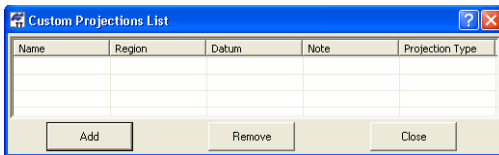

Figure 2-19. Custom Projections List
2. On the *Custom Projections List* (Figure 2-19 on page 2-14):